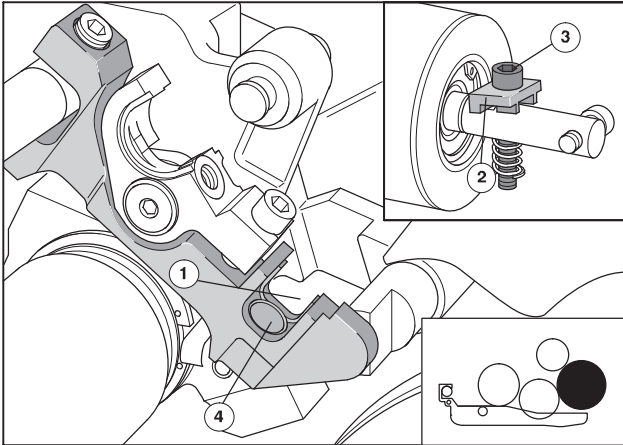

Fig. 28 Inserting the dampening form roller
2. **Before inserting** the roller, turn the cap (Fig. 28/2) so that side angled downwards lies in the groove of the roller shaft.
3. Place the shaft of the dampening form roller in the bearing (Fig. 28/1) so that the spring lies against the shaft in the swiveling lever borehole (Fig. 28/4). The **notch** on the shaft must always point to **O.S.**
4. Screw the shaft of the dampening form roller with the Allen screws (Fig. 28/3) in both bearing bores (Fig. 28/4). The cap must not turn when the screw fasteners are turned.